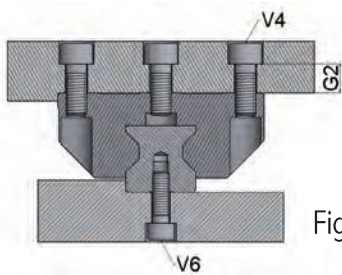
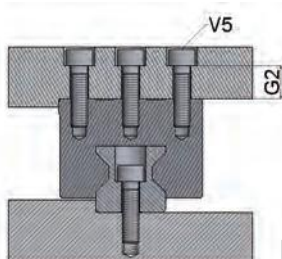

Fig.1
Fig.3
- Use of threaded holes as shown in fig.1 – fig.3. This method is preferable, as it leads to a stiffer fastening as the thread allows using a screw with a bigger diameter.